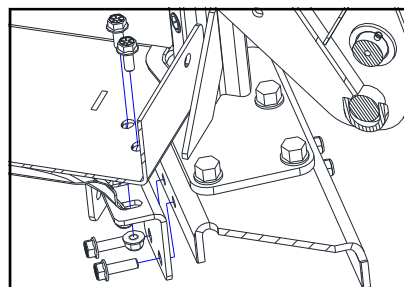

Fig. 5.2
5.2 Per Figure 5.2 (shown in section view for clarity), fasten the left contour to the vehicle using the factory installed weld nuts and the hardware listed below. **Install finger tight at this time.**